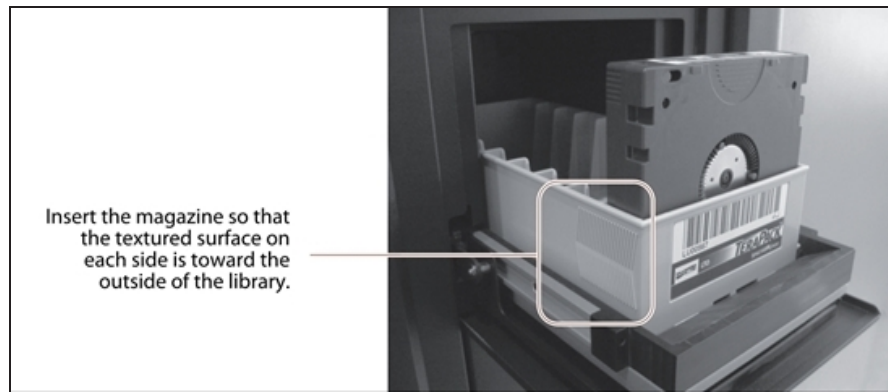

Figure 70 Insert a magazine into the TAP, making sure that it is correctly oriented.
3. Insert the magazine into the tray on the open TAP with the textured surface side toward the outside of the library, as shown in Figure 70 on page 129.
4. Click **Open TAP** to access the exported magazine. Exchange the magazine or any desired media in the TAP then click **Close TAP**. If you exchange a magazine, make sure the new magazine is oriented correctly (see Figure 70 on page 129).